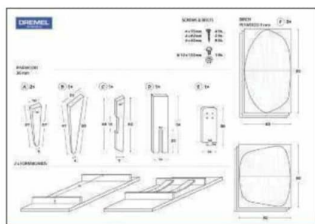

Fig.1
1. Make sure that all parts have the grain running in the same direction, which will make bending easier. Draw the outlines of each on a separate sheet of plywood and mark the centreline (see **Figs. 1 & 2**)